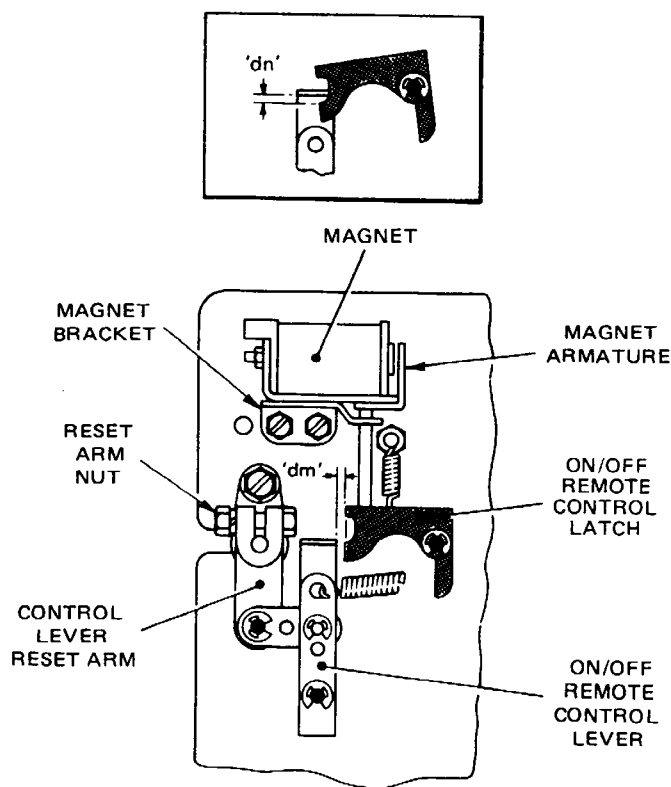

Fig. 4.126 ON/OFF REMOTE CONTROL LEVER ASSEMBLY
- 137.1 With the machine in the rest condition, check that there is a clearance of 0.002–0.016 inch (dimension 'dm' of Fig. 4.126) between the ON/OFF remote control latch and the ON/OFF remote control lever.